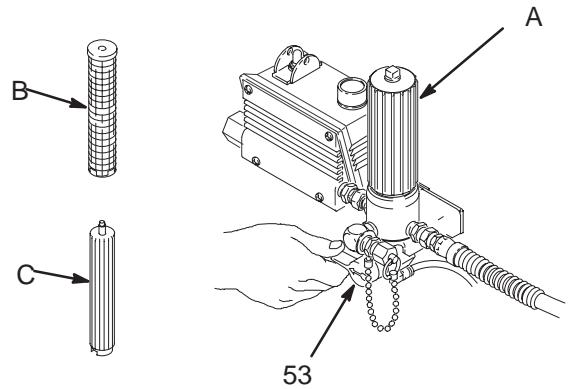

Fig. 5
3. Remove the spray tip from the gun. Remove the filter bowl (A) and screen (B); see manual 307–273. Clean the screen separately and install the bowl without the screen to flush it. See Fig. 5.